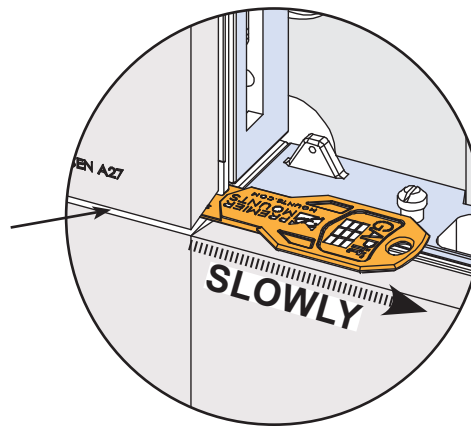

Figure 2
2. Slowly slide the Gap-It tool away from the LED Cabinets while lowering into place. See Figure 2.